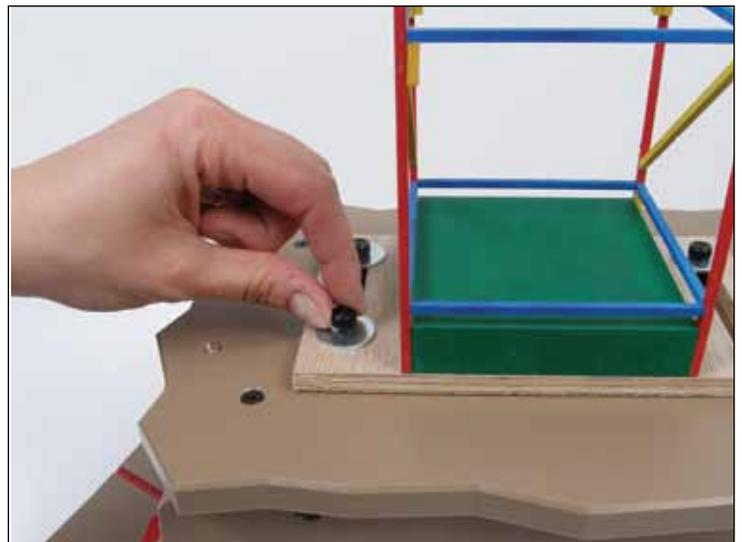

Figure 5
- 2) Place a washer over each hole and thread the anchor through it and into the EQ^s tabletop (Figure 5). Screw the anchors into the anchor holes – but do not overtighten the anchors. Overtightening the anchors could strip the threads in the anchor holes.